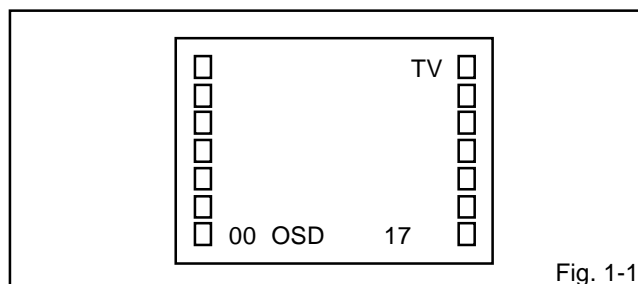

Fig. 1-1
1. In the condition of NO indication on the screen. Press the VOL. DOWN button on the set and the Channel button (**9**) on the remote control for more than 1 second to appear the adjustment mode on the screen as shown in **Fig. 1-1**.
3. Activate the adjustment mode display of **Fig. 1-1** and press the channel button (**01**) on the remote control to select "CUT OFF".
4. Activate the adjustment mode display of **Fig. 1-1** and press the channel button (**10**) on the remote control to select "R.BIAS".